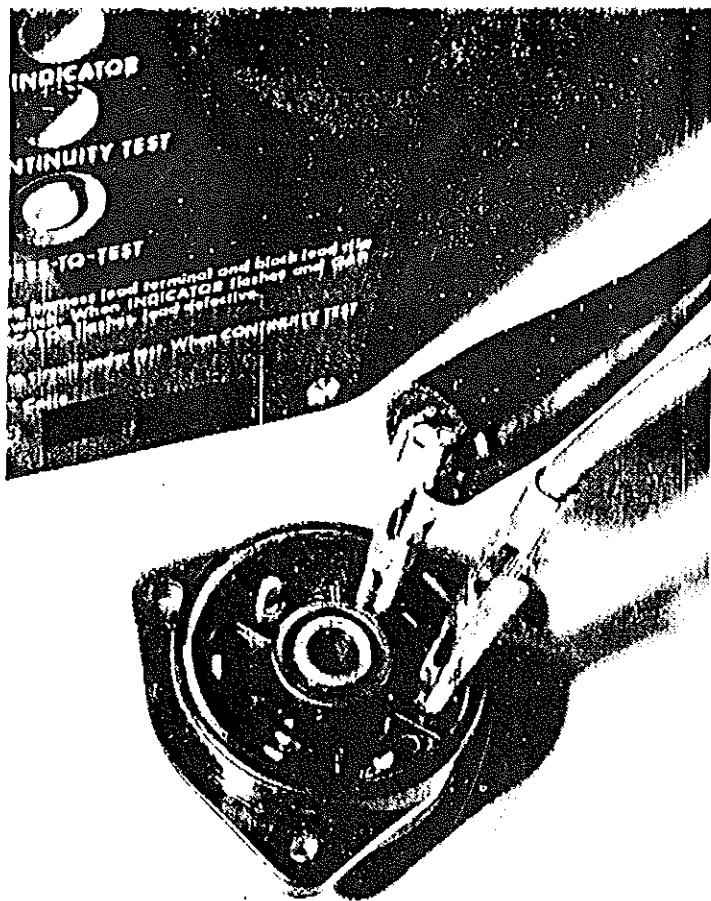
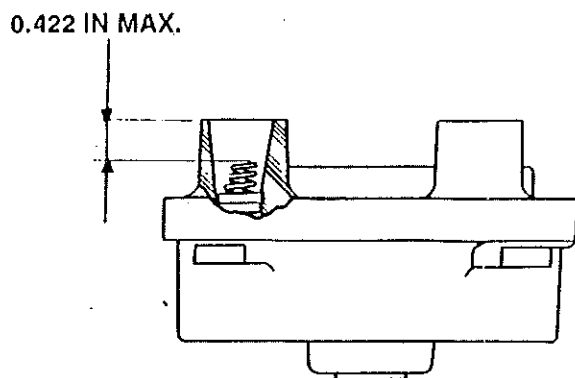

Figure 706. Checking Distributor Block for Carbon Tracking
Figure 707. Contact Spring Height
- B. Examine distributor block (79) for cracks, particularly around high tension terminal towers, mounting ears and nose in center of electrode side. Reject any cracked blocks (79).
- (1) Use a medium test clip to ground tester to an electrode of the block.
- (2) With high tension lead of tester, probe electrode adjacent to grounded one. See Figure 706.
- (3) Tester high voltage will follow a carbon track. Complete test of all Interelectrode spaces. Also test between grounded center bushing and all electrodes. Temporarily assemble block (79) into housing (48) and test for carbon tracking between electrodes and housing ground. Reject any carbon tracked blocks (79).
- E. Inspect contact springs (80), on tower side of block (79). If any look fuzzy or white, or show evidence of burning, rust or corrosion, remove with needle nose pliers and discard. Check springs for proper height by measuring down from top of tower. If measurement exceeds the .422 inch dimension shown in Figure 707 spring may be improperly installed. Using a scribe, or similar pointed instrument, wiggle top of spring in a circular motion to be sure only bottom turn of spring is captive in groove of block insert. Recheck spring height after. If measurement still exceeds .422 inch, remove and replace spring.
- F. Using a small scraper or knife, clean electrodes of distributor block (79) to remove any carbonized deposits. Do not attempt to grind or machine electrodes.